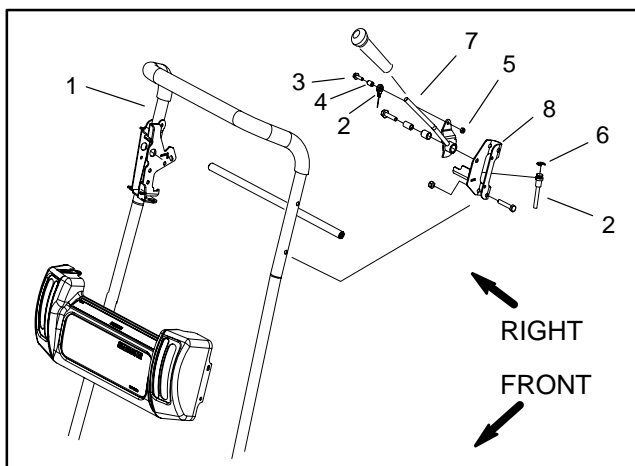

Figure 5
4. Remove flange head screw, spacer and lock nut that secures brake cable eyelet to brake lever on machine handle (Fig. 5).
5. Remove retaining ring securing the brake cable to the brake bracket (Fig. 5). Remove cable from the bracket.
1. Secure brake cable eyelet to the brake lever on the machine handle with flange head screw, spacer and lock nut (Fig. 5).
2. Position cable to the brake bracket and install retaining ring (Fig. 5).